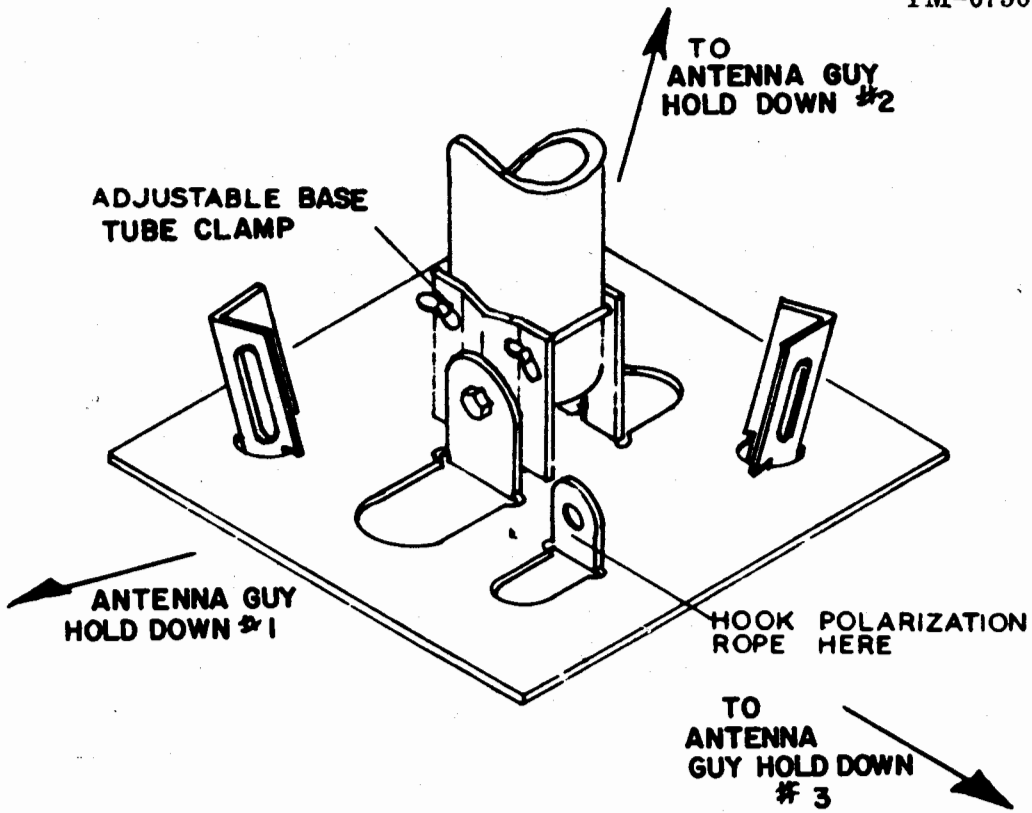
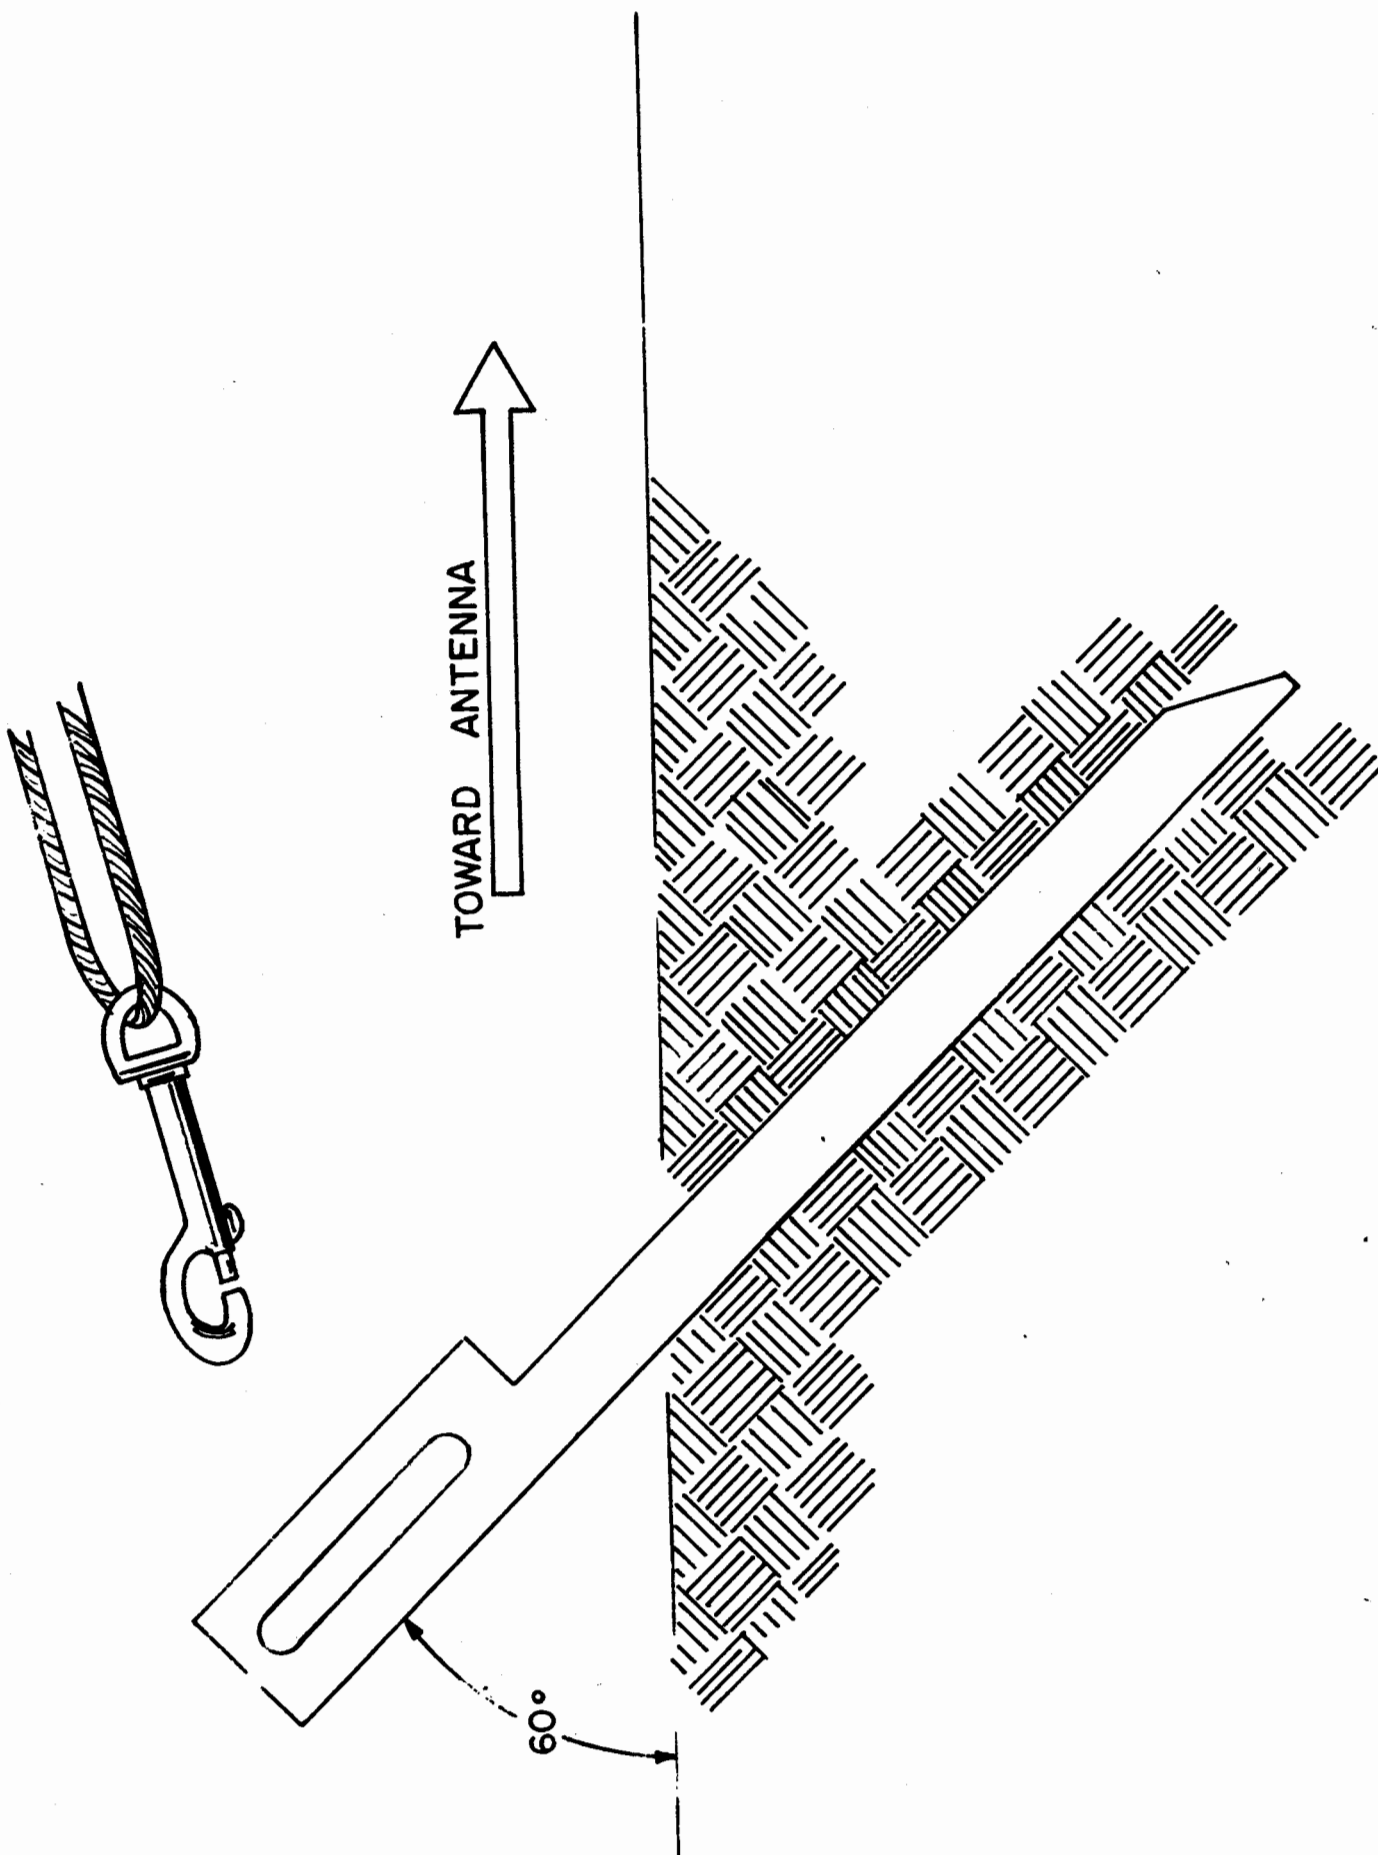
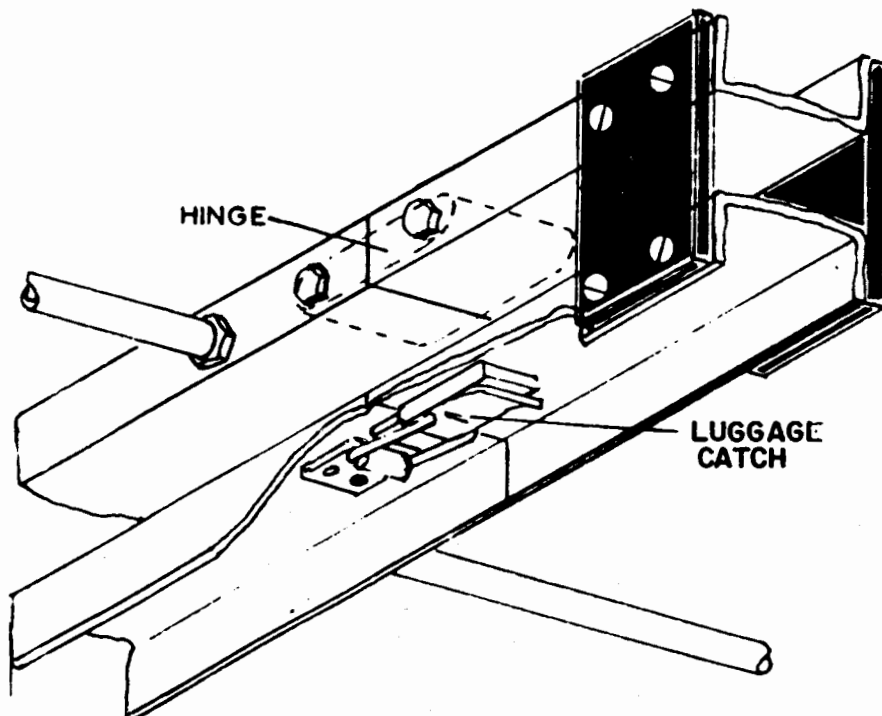

Figure 1-4 Base Plate Installation
Figure 1-6 Antenna Guy Hold down Installation
Figure 1-8 Locking Boom Sections in Place
d. Place mast base assembly at selected antenna location and drive antenna guy holddowns through the mast base assembly as shown in Figure 1-4. Refer to Figure 1-5, Plot Plan, and locate three antenna guy holddown points 120° apart about base plate at a radius of 3 normal paces (about 12 feet). Place antenna guy holddown #3 in line with rotation of mast. Install antenna guy holddown with hammer, driving them at a 30° angle from vertical tilted away from the mast base assembly as shown in Figure 1-6.
g. Erect the mast assembly (without the antenna) and connect the third guy to the antenna guy holddown #3. See Figure 1-6. Adjust all guy tensioning devices until the mast is in a vertical position and all guy ropes are snug. Disconnect the guy from antenna guy holddown #3 and carefully lower the mast to the ground. Select the antenna array assembly. Unhinge boom to full length and secure by fastening the latch tight with the catch. Refer to Figure 1-8.